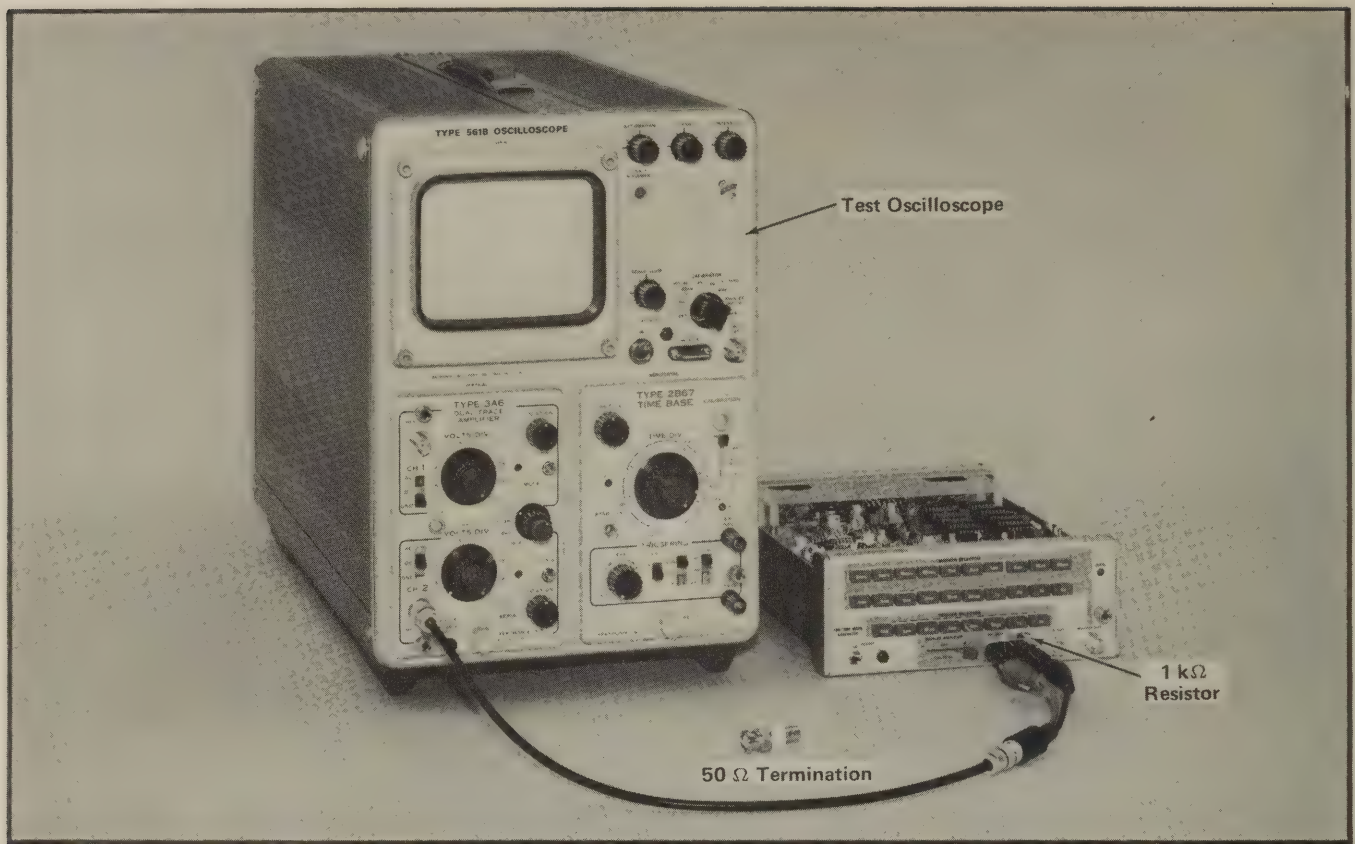

Fig. 5-8. Equipment setup to check— .1 μ s to 5 s MARKER OUT amplitude, MARKER AMPLIFIER OUTPUT amplitude, and TRIGGER OUTPUT amplitude.
- Equipment setup is shown in Fig. 5-8.
- a. Equipment setup is shown in Fig. 5-8.
- a. Test equipment setup is shown in Fig. 5-8.